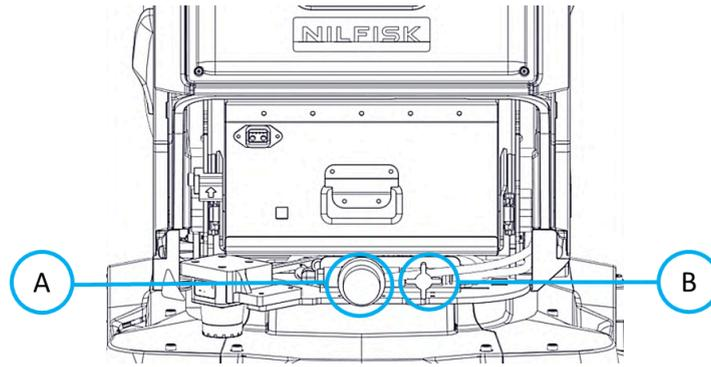

FIGURE 11-18
2. Close the clean water tank valve (**Fig. 11-18 (B)**).
3. Unscrew the water filter (**Fig 11-18 (A)**), clean it and screw on.